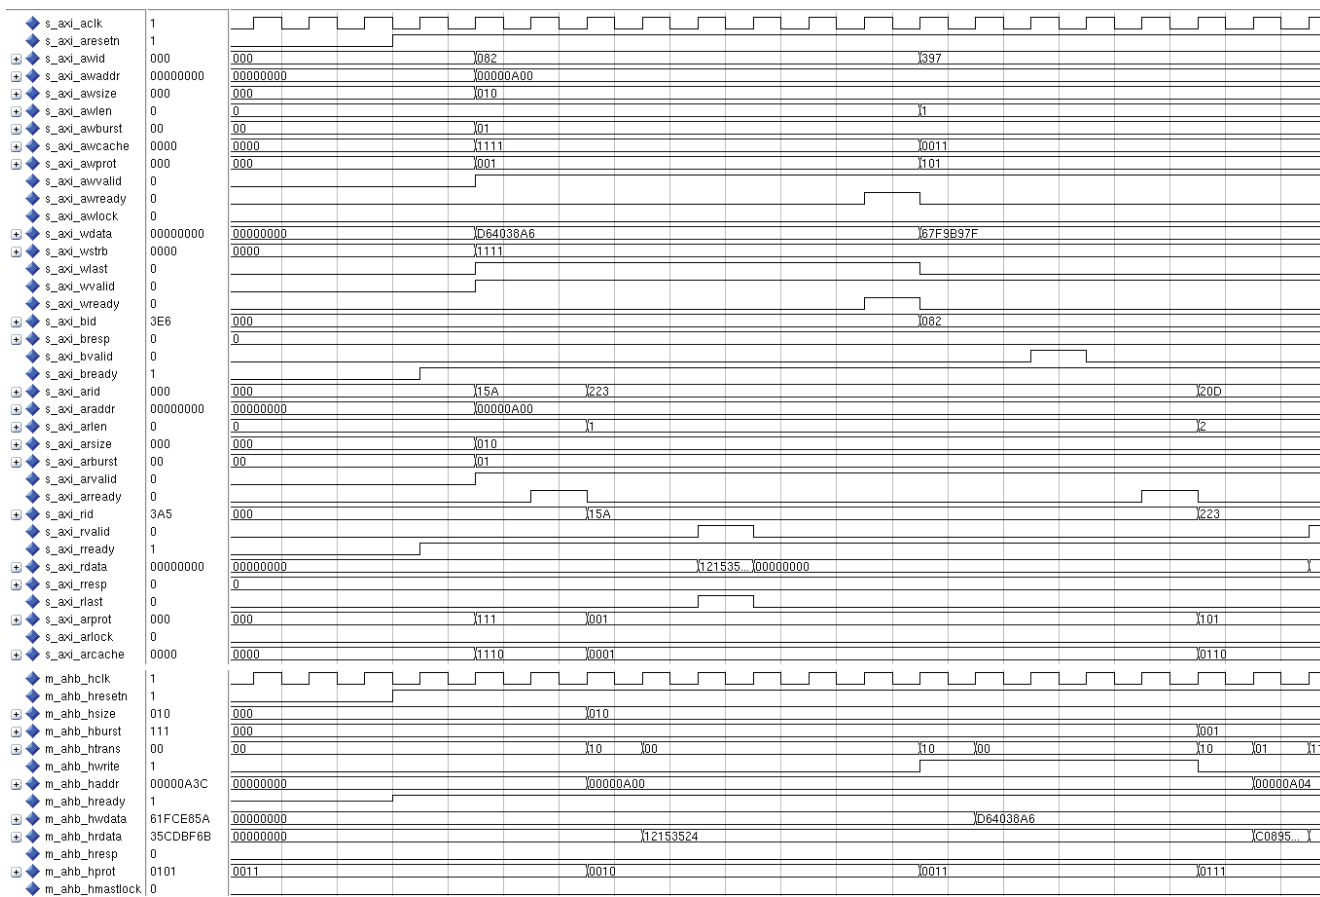

Figure 4: AXI Read and Write Transfers
3. AXI read and write transfers is shown in Figure 4. As shown, when read and write transfers are initiated on the AXI4 interface at the same time, the read transfer is given a higher priority than the write transfer.